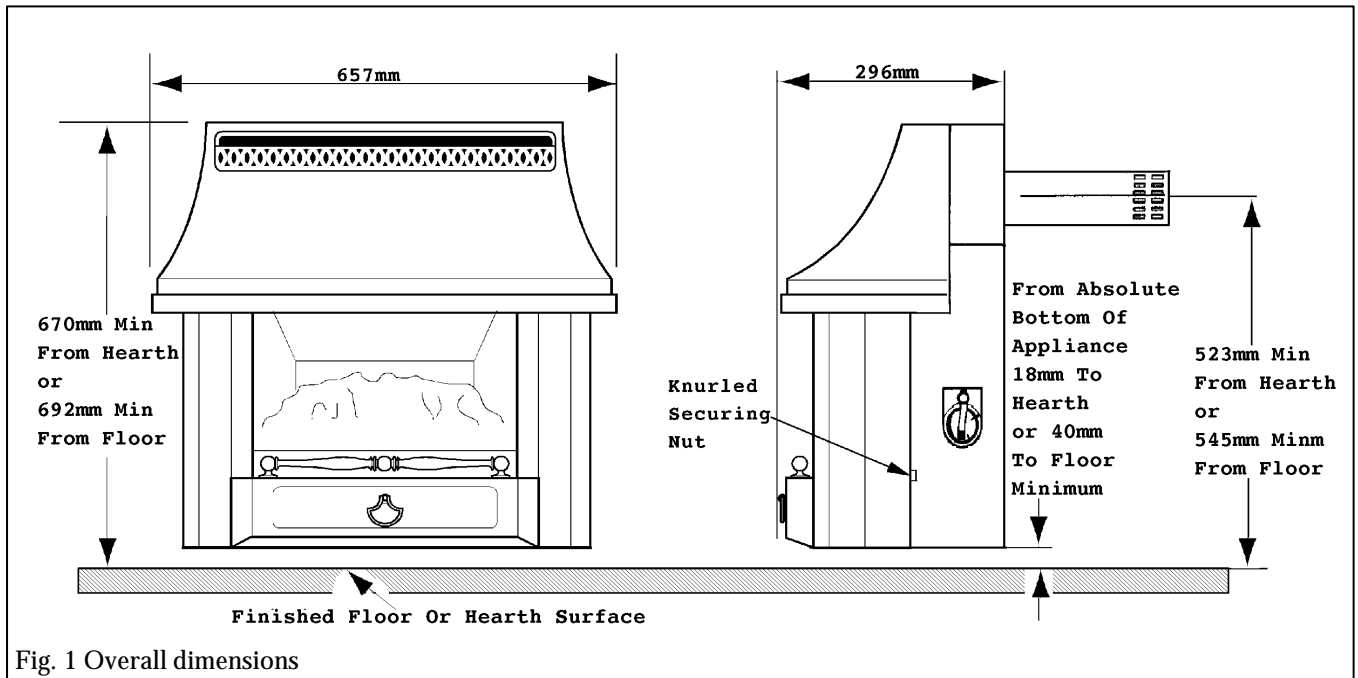

Fig. 1 Overall dimensions
The overall dimensions are shown in figure 1.
- 4.2 Detach the case front by removing the knurled nuts and washers at the case sides (see fig.1).